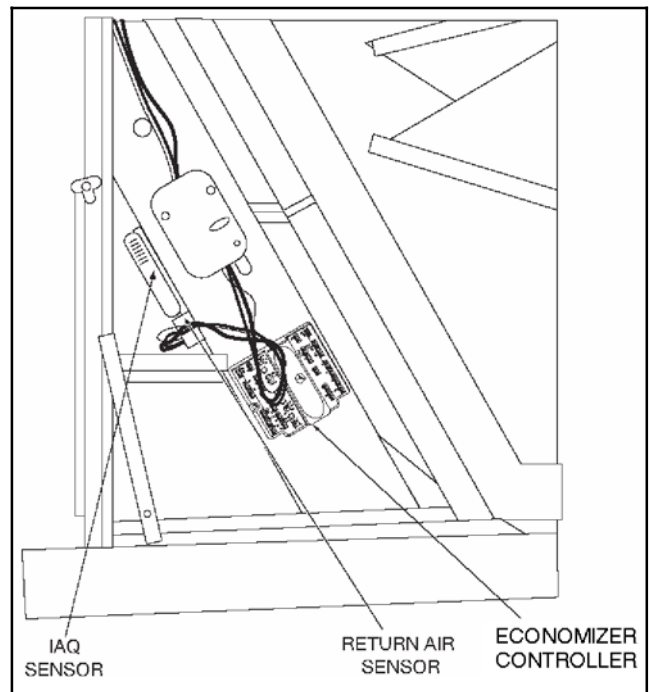

Fig. 9 - Return Air Enthalpy Sensor Mounting Location — PHH156-180, PAH155-180, PGH155-180, PGE180-300, PAE180-300
4. Using the screws provided in the DNENTDIF004A00 kit, mount the differential enthalpy sensor to the economizer frame. (See Fig. 9.)